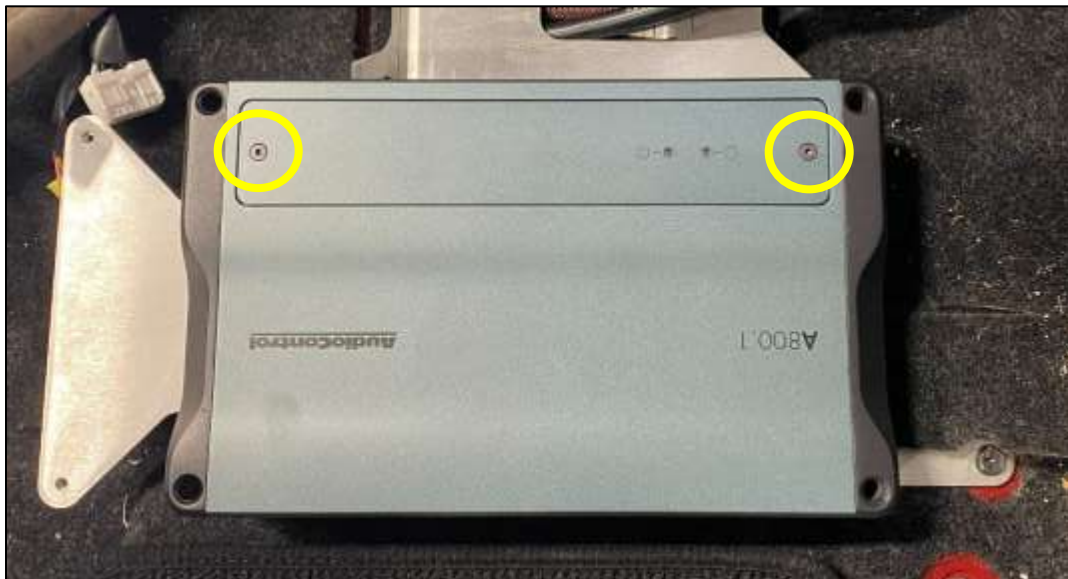

Figure 16
22. Using the Hex Key included with the Amp, remove the (2) two screws securing the top cover to the Amp and remove the cover. *Figure 16.*